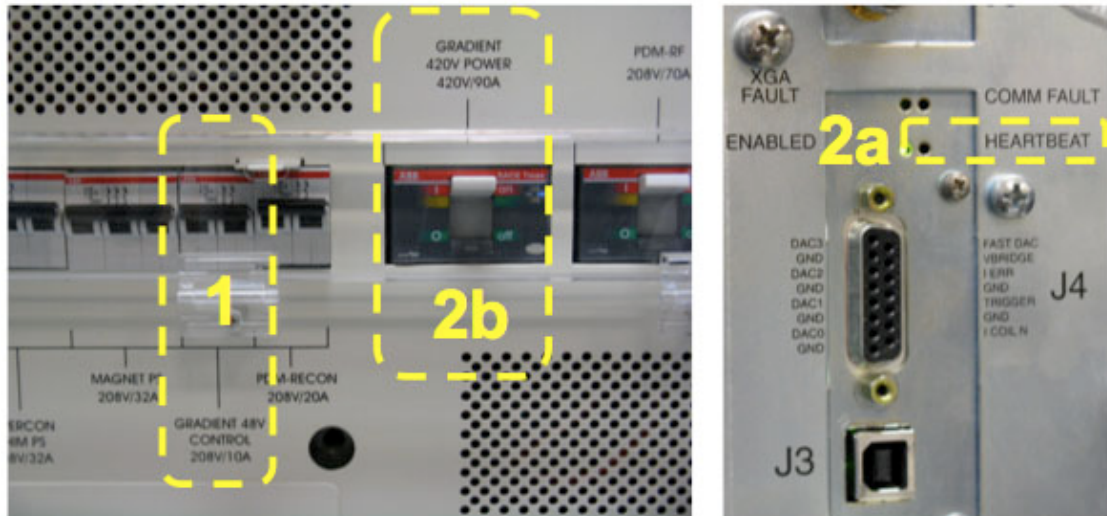

Figure 28. Turn circuit breakers in the following order:
- 26) **Turn ON** Gradients Control Switch (Fig. 28 – switch #1 at the left) and wait for about 10 seconds to ensure the gradient control system is functional. As a visual cue, you can wait until the LEDs “heartbeat” of the three gradient amplifiers XGA (X, Y, Z) are continuously flashing ON and OFF (Fig. 28 – LED 2a).
27) Turn ON Gradients Power Switch (Fig. 28 – switch #2b).